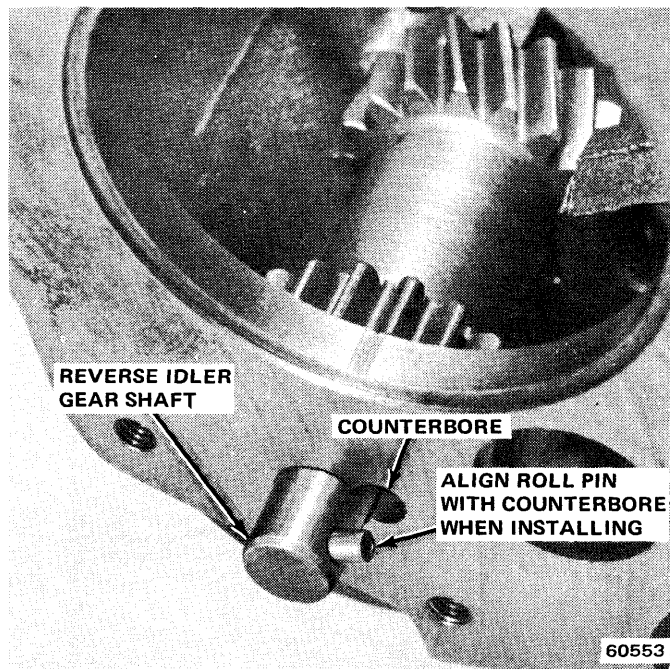

Fig. 6-8 Removing-Installing Reverse Idler Gear Shaft
(12) Remove main shaft assembly. Tilt spline end of main shaft downward and lift forward end of shaft upward and out of case.
(13) Remove countershaft gear and arbor tool as assembly. Remove countershaft gear thrust washers, countershaft roll pin, and any main shaft pilot roller bearings which may have fallen into case during clutch shaft removal.
(14) Remove reverse idle gear shaft. Insert brass drift through clutch shaft bore in front of case and tap shaft until end of shaft with roll pin clears counterbore in rear of case (fig. 6-8) and remove shaft.
(15) Remove reverse idler gear and thrust washers.
(3) Install reverse idler gear. Align gear bore, thrust washers, case bores, and install reverse idler gear shaft from rear of case. Be sure to align and seat roll pin in shaft into counterbore in rear of case (fig. 6-8).
(4) Measure reverse idler gear end play by inserting feeler gauge between thrust washer and gear. End play should be 0.004 to 0.018 inch. If end play exceeds 0.018 inch, remove idler gear and replace thrust washers.